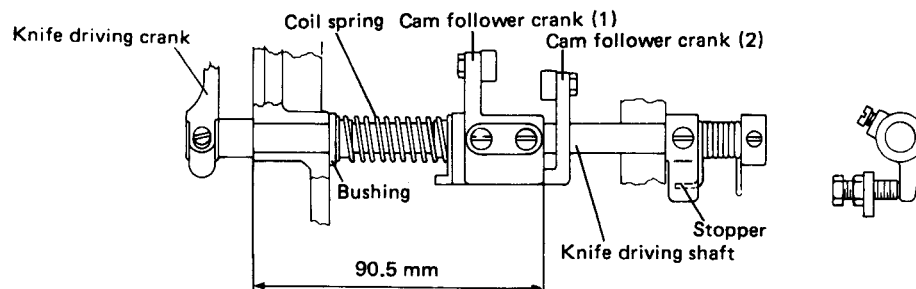
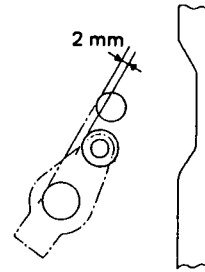
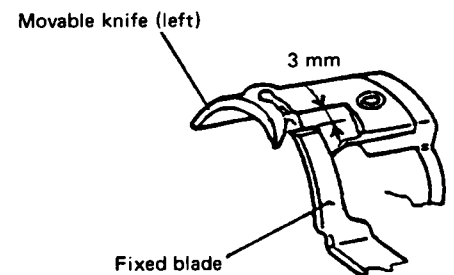

Fig. 7
Fig. 11
Fig. 14
- (1) Fig. 7 shows the standard setting position.
- (2) During assembling, be sure to pass the knife driving shaft through the knife driving crank first.
- (3) Fix the cam follower crank (1) to the recess of knife driving shaft at the position shown in Fig. 7.
- (4) Fix the stopper to the recess so that the knife driving shaft can rotate smoothly without play in the axial direction.
Note: The standard position of cam follower crank (2) prior to the operation is shown in Fig. 11. When this position has been changed, for example, by removing the stopper plate, make adjustment with the adjust screw (Fig. 7) and then make adjustment in (1) to (3).
(3) Adjustment of knife engagement pressure
- ① The standard knife engaging pressure is obtained when the movable knife (left) and fixed blade start making contact with each other at the position shown in Fig. 14.
- ② When cutting action is poor especially because of thick thread, a slight increase of the engagement pressure produces an effect.
- ③ To adjust the engagement pressure, loosen the lock nut (B) in Fig. 11 and adjust with the adjust screw (A).